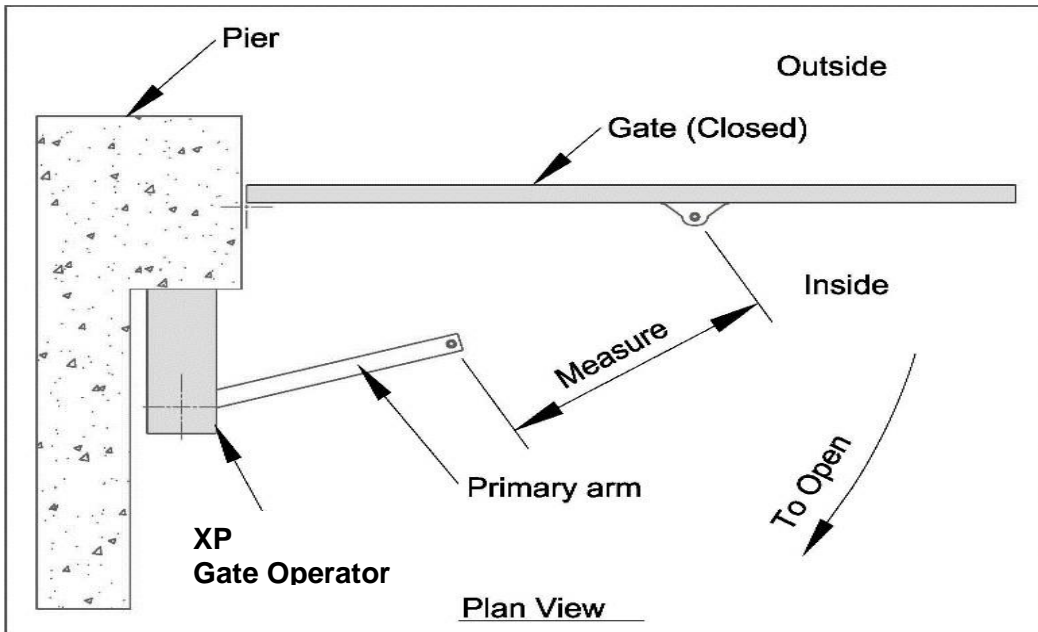

Figure 7: Measure length of secondary arm.
1. Move the primary arm to a position suitable for the closed gate, remembering that in the closed position, the primary **and** Secondary arms must stop short of a straight-line alignment (see figure 7)